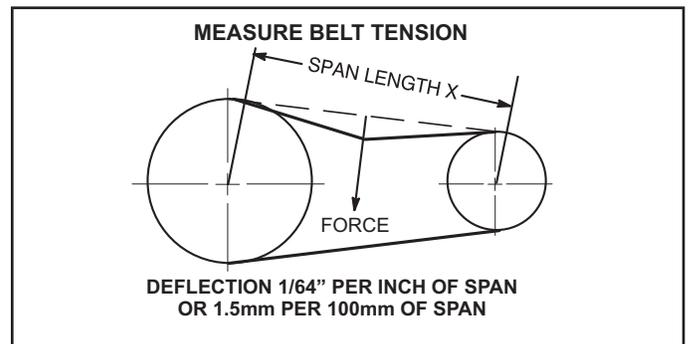

FIGURE 9
- 1 - Measure span length X. See FIGURE 9.
- 2 - Apply perpendicular force to center of span (X) with enough pressure to deflect belt 1/64" for every inch of span length or 1.5mm per 100mm of span length.